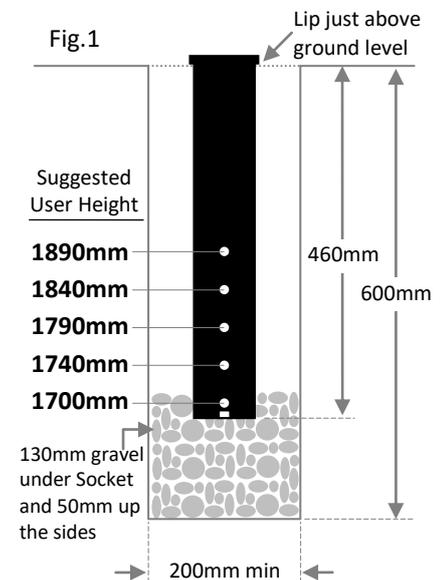
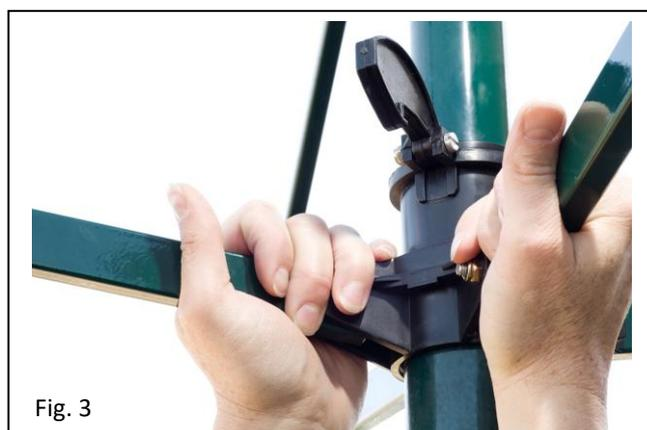

Fig. 2
Fig. 3
- To raise the Head Section, first remove the Line Retainer (length of Cord with a black plastic hook) that loops around the Arms holding it together, keep the Line Retainer for later use. Remove any wrapping. Carefully open the Arms part way and check lines are not caught or twisted (Fig.2). In particular ensure outer lines are not looped around the tips of the Arms. Push Arms upwards until the Cross meets the black plastic Bush and flip the Latch down to secure them together (Fig. 3 and 4). Note: If it is very difficult pushing the Cross toward the Bush/Latch then re-check all lines to ensure they are not wrapped around the end of an Arm. Fit Caps to the end of tubular steel Arms and Stays (FA45 only).